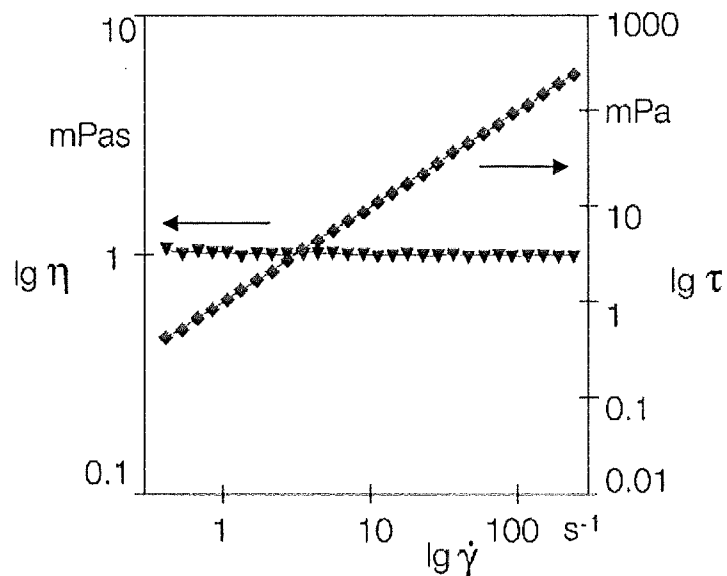

Figure 1 : Rheological properties of Material A
- (b). Figure 1 shows rheological properties of Material A. Discuss the effect of viscosity and shear stress with increasing shear rate for Material A and develop a rheological equation for the Material A at steady state.